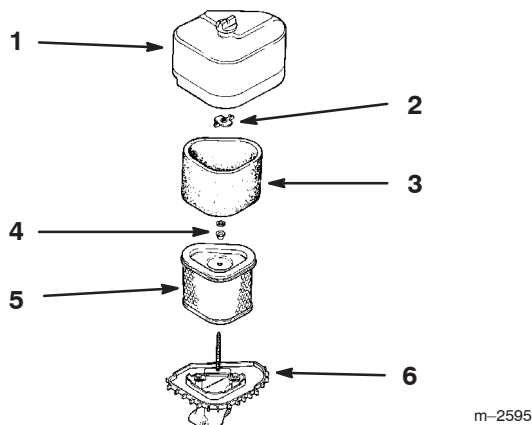

Figure 25
2. Clean around the air cleaner to prevent dirt from getting into the engine and causing damage. Unscrew the cover nut and remove the air cleaner cover (Fig. 25).
3. Remove the air cleaner assembly (Fig. 25).
4. Carefully slide the foam element off the paper element (Fig. 25).
1. Carefully slide the foam element onto the paper air cleaner element (Fig. 25).
2. Place the air cleaner assembly onto the air cleaner base (Fig. 25).
3. Install the air cleaner cover and secure with cover nuts (Fig. 25).